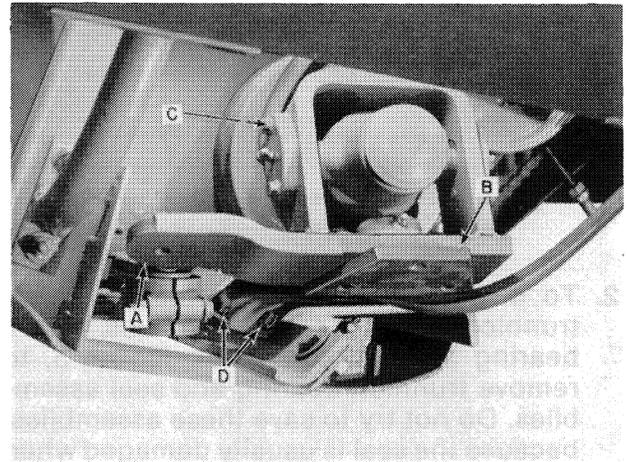

FIGURE 3
5. Rotate the wobble sheave until wobble yoke, A, Figure 3, is in the highest position. Rotate steady rest support as shown and remove belt.
6. Remove bolts, C, and bolts, D, Figure 3. Then remove the complete wobble assembly from the mower-conditioner.
Install the wobble assembly using bolts at C and D, Figure 3. Tighten hardware installed up to this point.